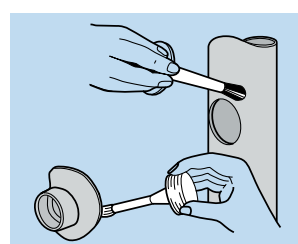

Fig.3
- Apply solvent cement 9100 to all mating surfaces (Fig.3).